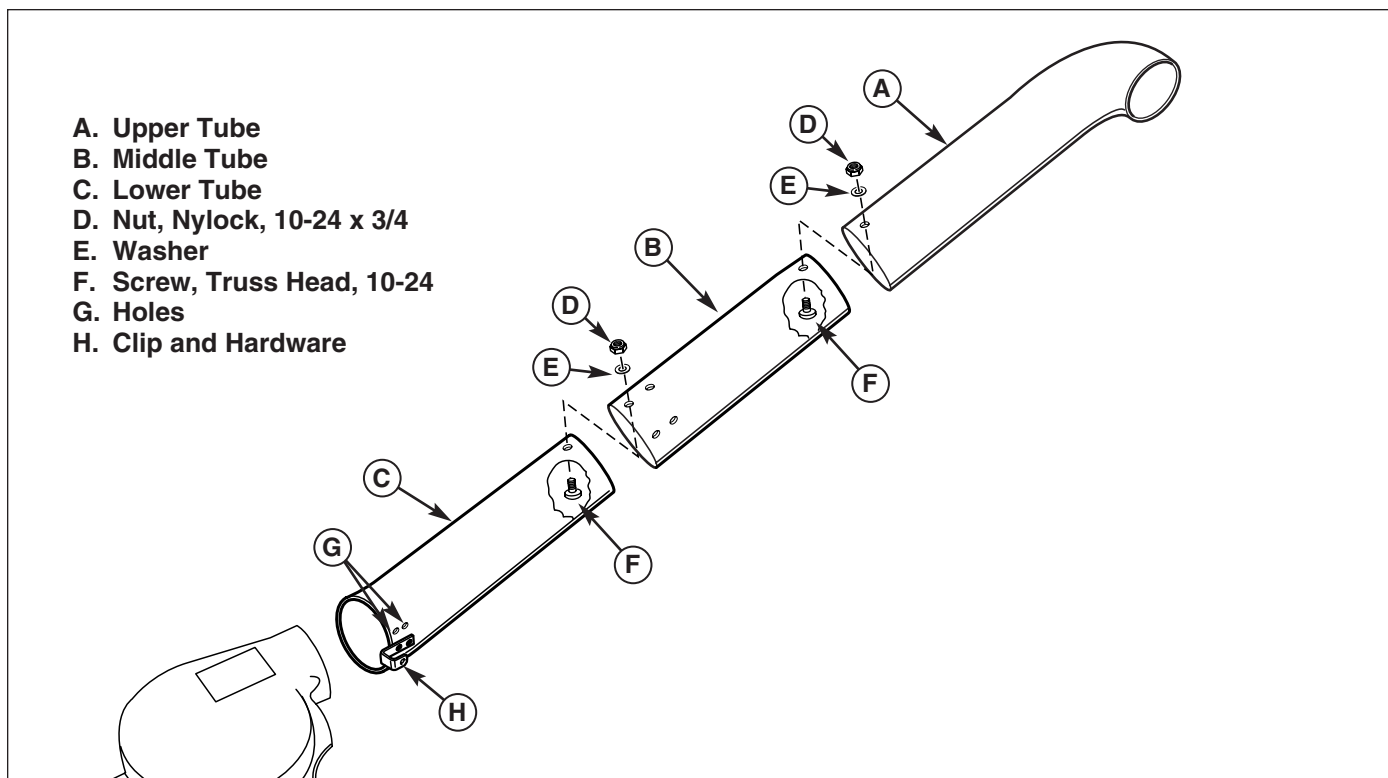

Figure 4. Assemble Tubes & Deflector
1. Insert the lower tube (C, Figure 4) into middle tube (B). Secure the tubes as shown in Figure 4 using #10-24 x 3/4 screws, washer (E) and #10-24 nuts (D). Insert middle tube (B) into upper tube (A). Secure the tubes as shown in Figure 4 using #10-24 x 3/4 screws, washer (E) and #10-24 nuts (D).
2. Place upper tube into catcher opening. Secure the elbow to the turbo using clip (H).